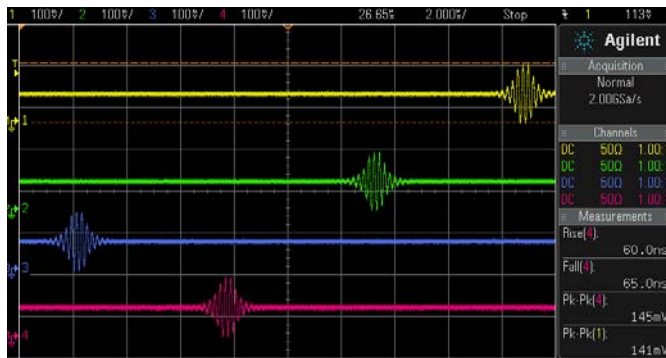

Figure 8 : Example 5 Result
- j. The outputs from J2, J1, J4 and J5 will be as displayed in Figure 8